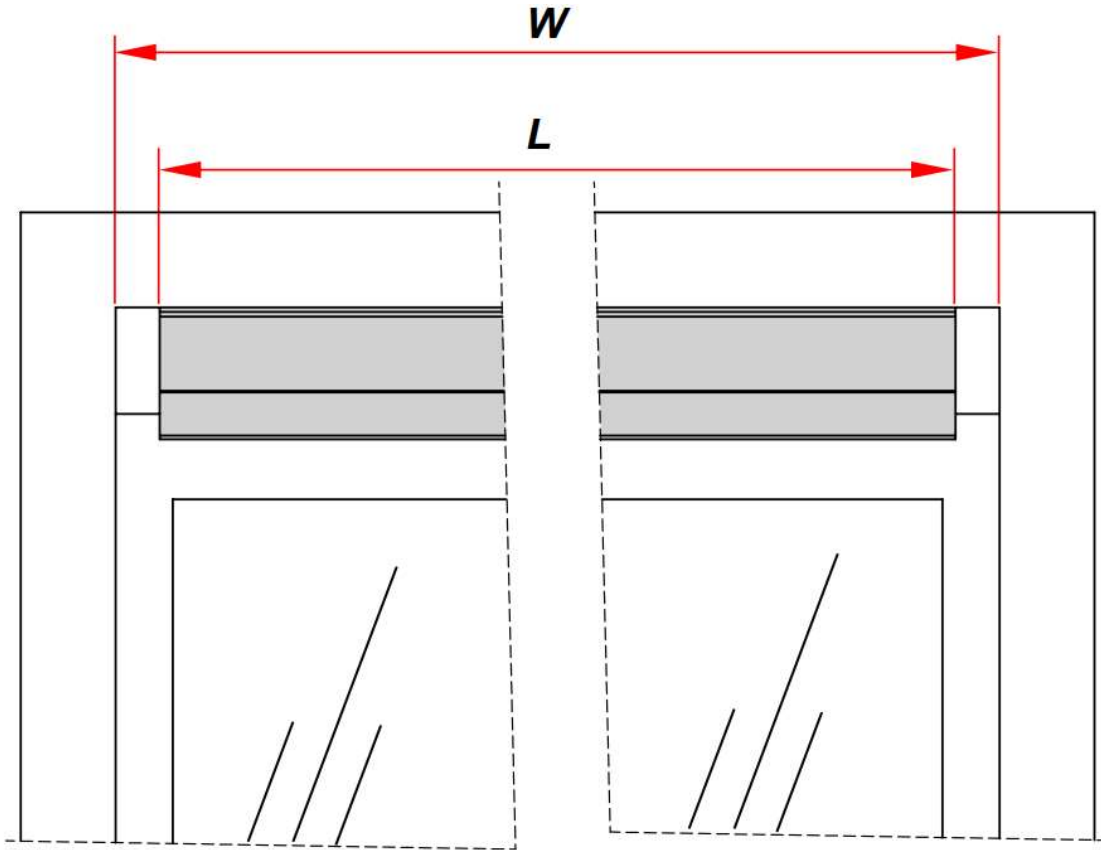

Figure 7: Cut the cover (shown in grey) to a length L which is 0.51" to 0.59" (13-15 mm) shorter than W .
- Cut the cover to a length (L) which is **0.51" to 0.59"** (13 to 15 mm) **shorter** than the inside width (W) of the sliding door frame (see Figure 7).